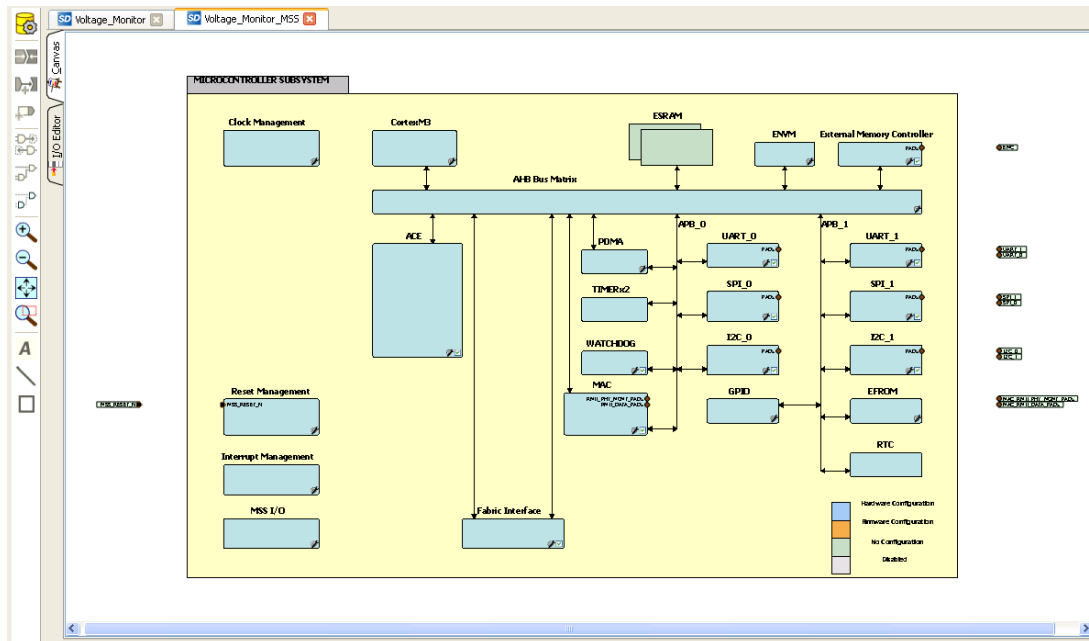

Figure 4 · MSS in the SmartDesign Canvas
1. Double click on **Voltage_Monitor_MSS_0** component to configure the MSS. The MSS is displayed in the SmartDesign Canvas opens in a new tab, as shown in Figure 4 .